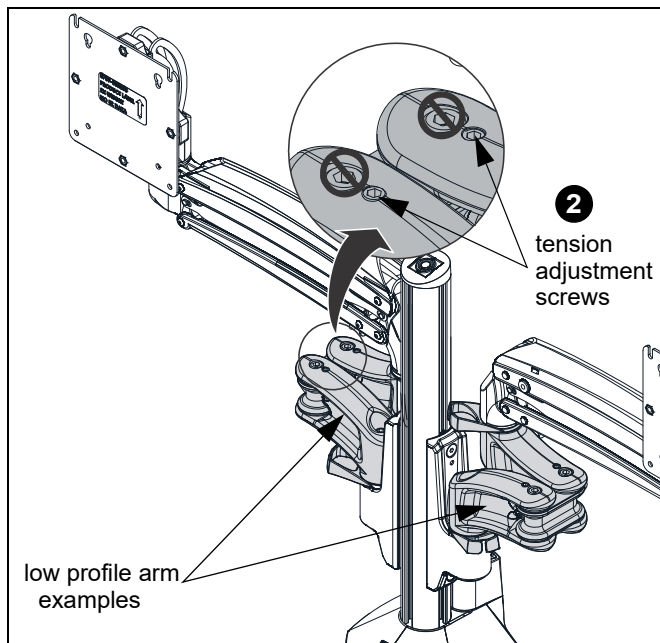

Figure 11
1. Adjust arm to achieve desired low profile depth. (See Figure 11)
2. Use 1/8" hex key (L) to adjust low profile tension screws to change tension. (See Figure 11)
IMPORTANT ! : Only adjust small set screws on arms! Large screws are the screws that hold arms together. (See Figure 11)